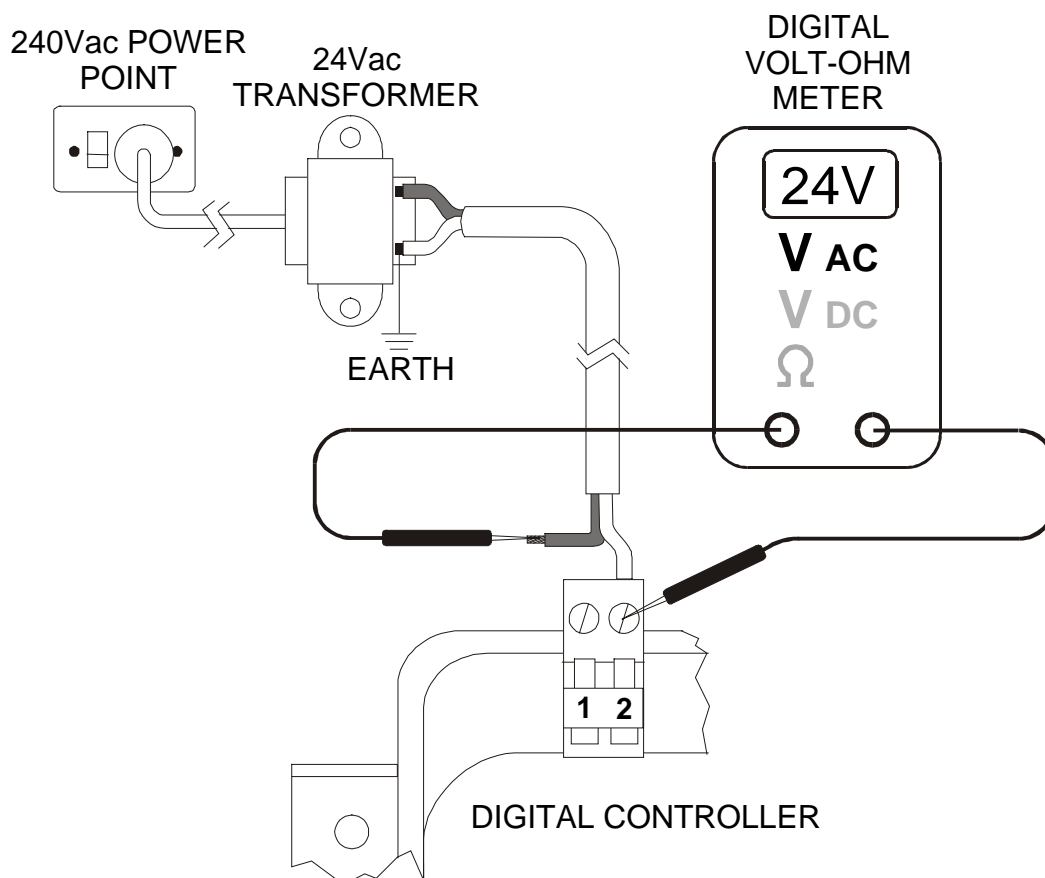

Figure 4-1. Checking Power Input.
- c. Disconnect the power lead from Terminal 1 (Figure 4-1).